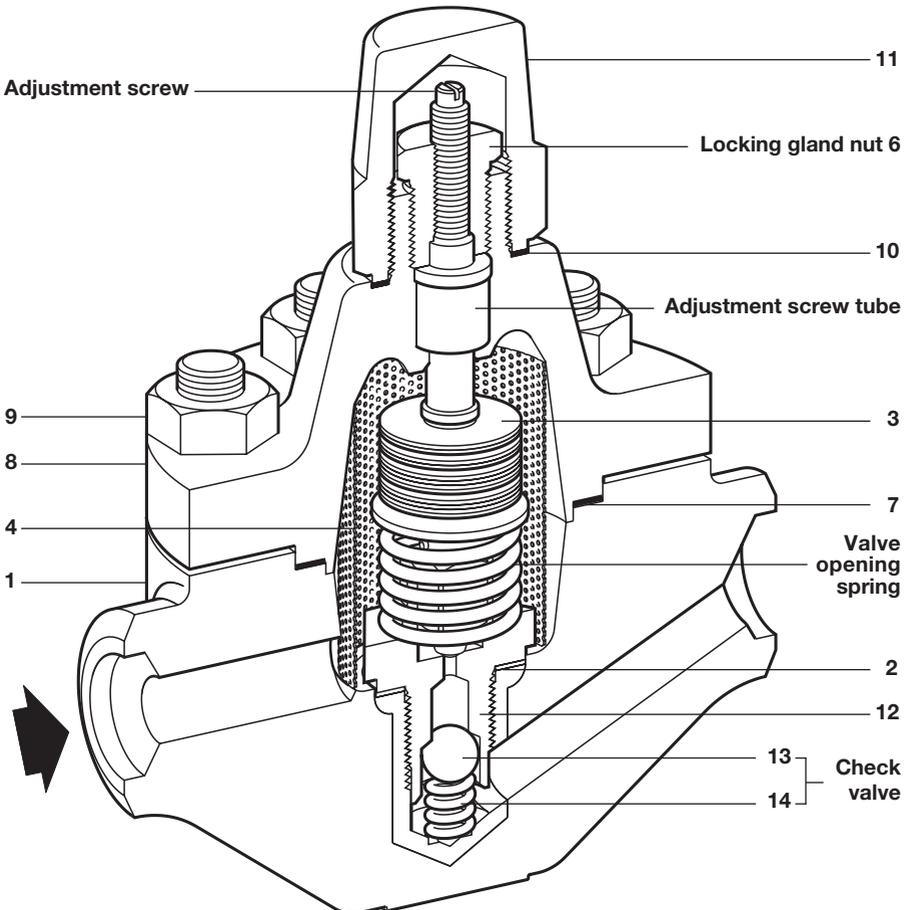

Fig. 4
6.5 Reassembly: Refer to Figure 4, page 13.